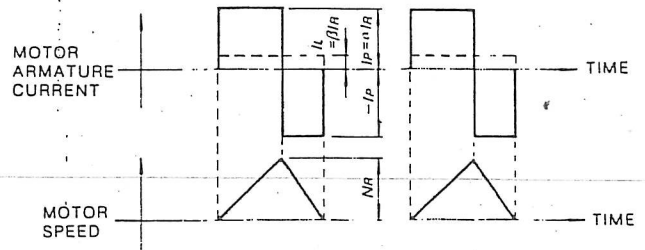

Fig. 4.5 Timing Chart of Motor Armature Current and Speed
- When the motor remains at standstill between cycles of acceleration and deceleration without continuous rated speed running (Fig. 4.5).
The timing chart of the motor armature current and speed is as shown in Fig.4.5. The allowable frequency of operation "n" can be calculated as follows: